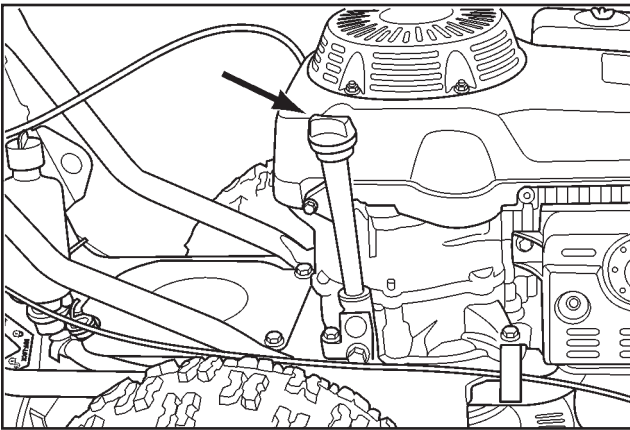

FIGURE 5 Check Engine Oil Level
2. Check the oil level as indicated in the engine owner's manual and fill with the recommended motor oil.(See Figure 5).